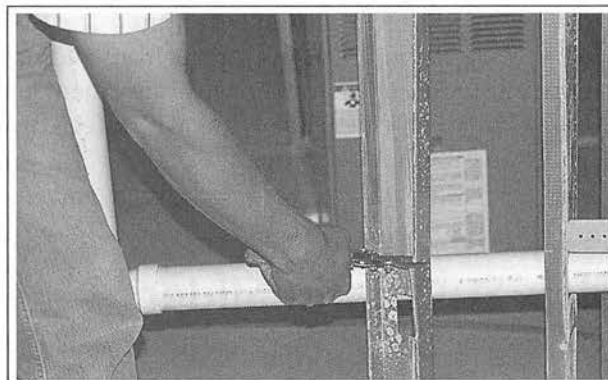

Figure 1-66. Marking the notch with your snips, as shown here, is much faster than measuring and marking the cut with your tape and marker.
- ◆ To begin the notch in light gauge material, mark the outside points of the cut with your snips, as shown in Figure 1-66.